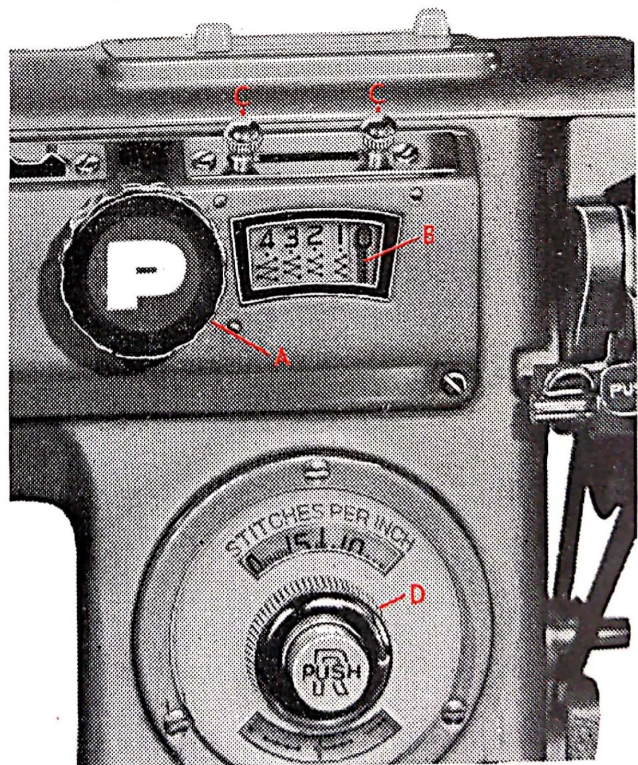

FIG. 26
The zig-zag stitch regulator (A) (Fig. 26) controls the width of the stitch. During plain sewing, this regulator must be turned as far to the left as it will go, and the indicator in the window (B) (Fig. 26) must be at 0.
By turning regulator (A) (Fig. 26) to the right, the indicator in the window (B) (Fig. 26) will move to the left showing by number and design under the numbers, the width of the zig-zag stitch which will result. Setting at 4 is maximum width zig-zag, and at 0 the "SEW-MATIC" reverts to plain sewing. The stop control knobs (C.C. Fig. 26) may be tightened to secure the stitch width regulator knob in any position.